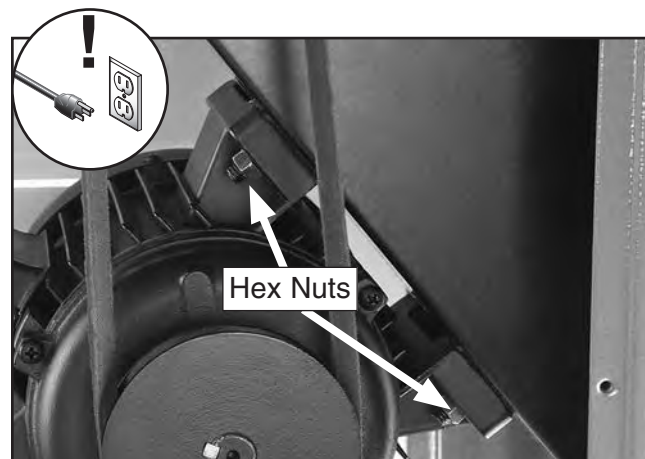

Figure 63. Motor mount hex nuts.
3. Using a 12mm wrench, loosen the motor mount bolts shown in **Figure 63**, raise the motor to remove the V-belt tension.